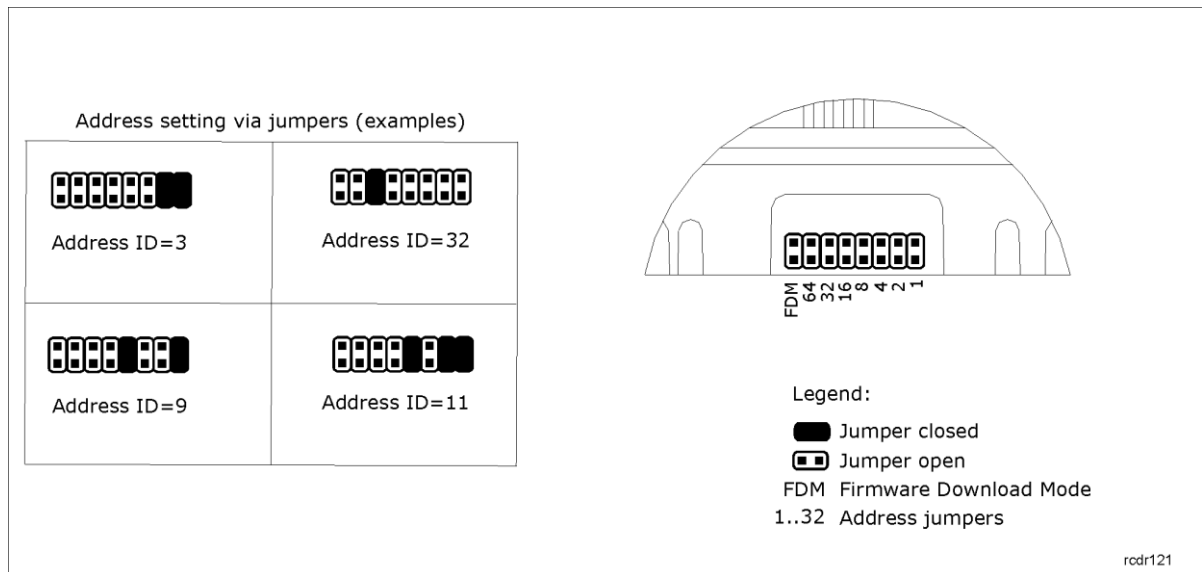

Fig. 6 Addressing jumpers
The address of controller can be set by means of jumpers – see fig. 6. Each time the new address is configured, controller must be restarted (via RESET button or powering device off and on) to make new settings valid. The address range is 00..127 and if the address is in range 100..127 then the controller ignores such setting and all other addressing methods can be used. If the address is in range of 00..99 then it has the highest priority, FixedID is not effective, and the address cannot be changed by PR Master software nor manually during Memory Reset procedure.
- Place jumper on FDM pins (see fig. 6)